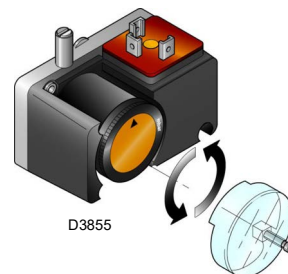

Fig. 28
- Adjust the minimum gas pressure switch (Fig. 28 on page 26) to the start of the scale.
Adjust the minimum gas pressure switch (Fig. 28) after having adjusted the burner, the gas valves and the gas train stabiliser. With the burner operating at maximum output: